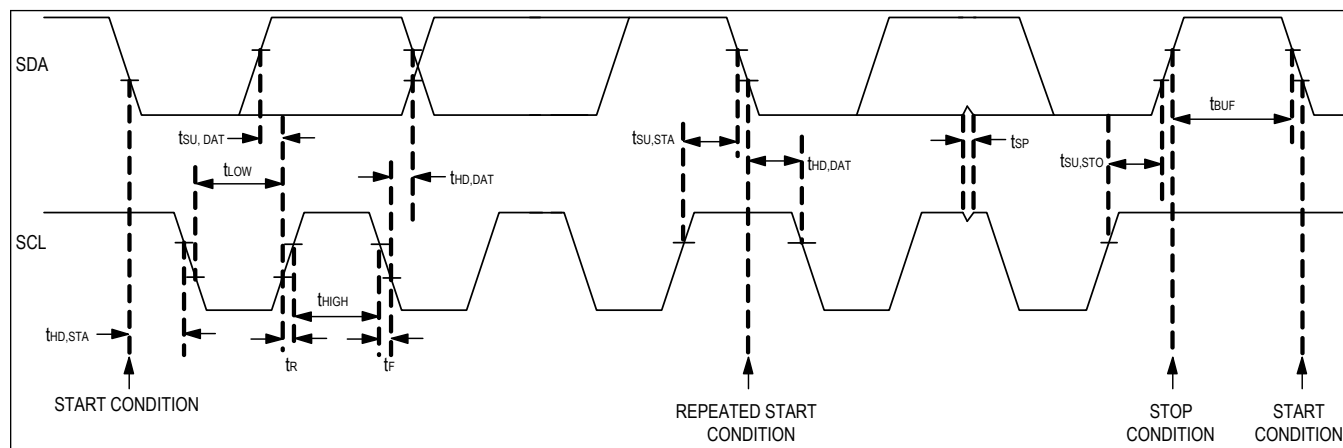

Figure 2. I²C Timing Diagram
The ICs feature an I²C, 2-wire serial interface consisting of a serial-data line (SDA) and serial-clock line (SCL). SDA and SCL facilitate communication between the ICs and the master at clock rates up to 3.4MHz. The master, typically a microcontroller, generates SCL and initiates data transfer on the bus. Figure 2 shows the 2-wire interface timing diagram. A master device communicates with the ICs by transmitting the proper address followed by the data word. Each transmit sequence is framed by a START (S) or Repeated START (Sr) condition and a STOP (P) condition. Each word transmitted over the bus is 8 bits long and is always followed by an acknowledge clock pulse.